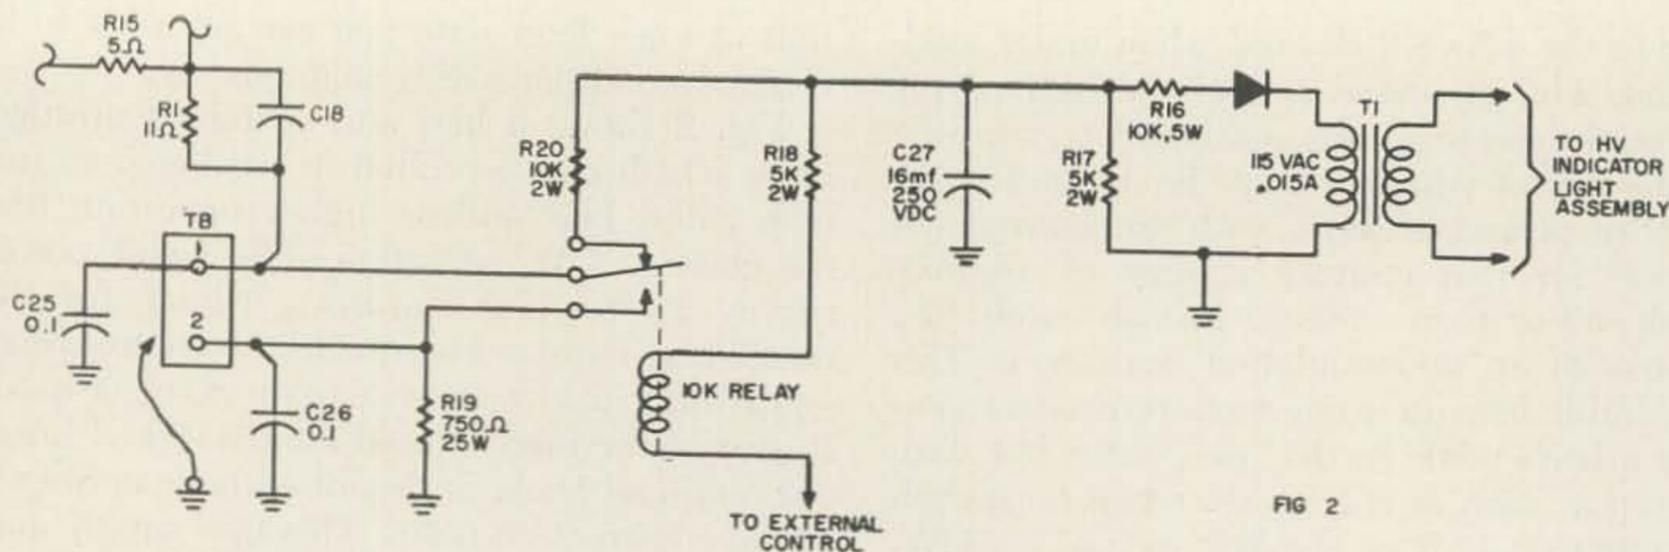

FIG 2
Fig. 2 shows a bias and switching arrangement which can be added to the linear to furnish cutoff bias and/or higher operating bias for class C CW operation. The small power supply in the unit furnishes voltage for the cutoff bias and for energizing the control relay—providing a low current plate relay is used. In case an ac relay is used omit R18 and bring out both coil leads as described later in Step 8 of the construction notes. This bias supply and relay will allow several transmitter conditions to exist i.e. 1) by connecting a jumper on the outside of the chassis from terminal 1 of T to the ground terminal on the chassis, normal operation of the amplifier will result regardless of the condition (open or closed) of relay Ry 1, 2) by grounding terminal 2 of T and actuating the relay for transmit, cutoff bias is applied for standby and the normal voltage of 4.5 volts is applied for transmit, 3) by removing jumper from T and actuating relay on transmit a cutoff bias is established for standby and a high operating bias is established for class C CW service, 4) by shorting terminal 1 and 2 of T and not actuating the relay a condition of no cutoff standby bias is established and a high operating bias for class C CW is established. These
- Step 2 Build circuit shown in Fig. 2. Suggest using printed circuit board or a piece of bakelite. Mount on bracket of Step 1.